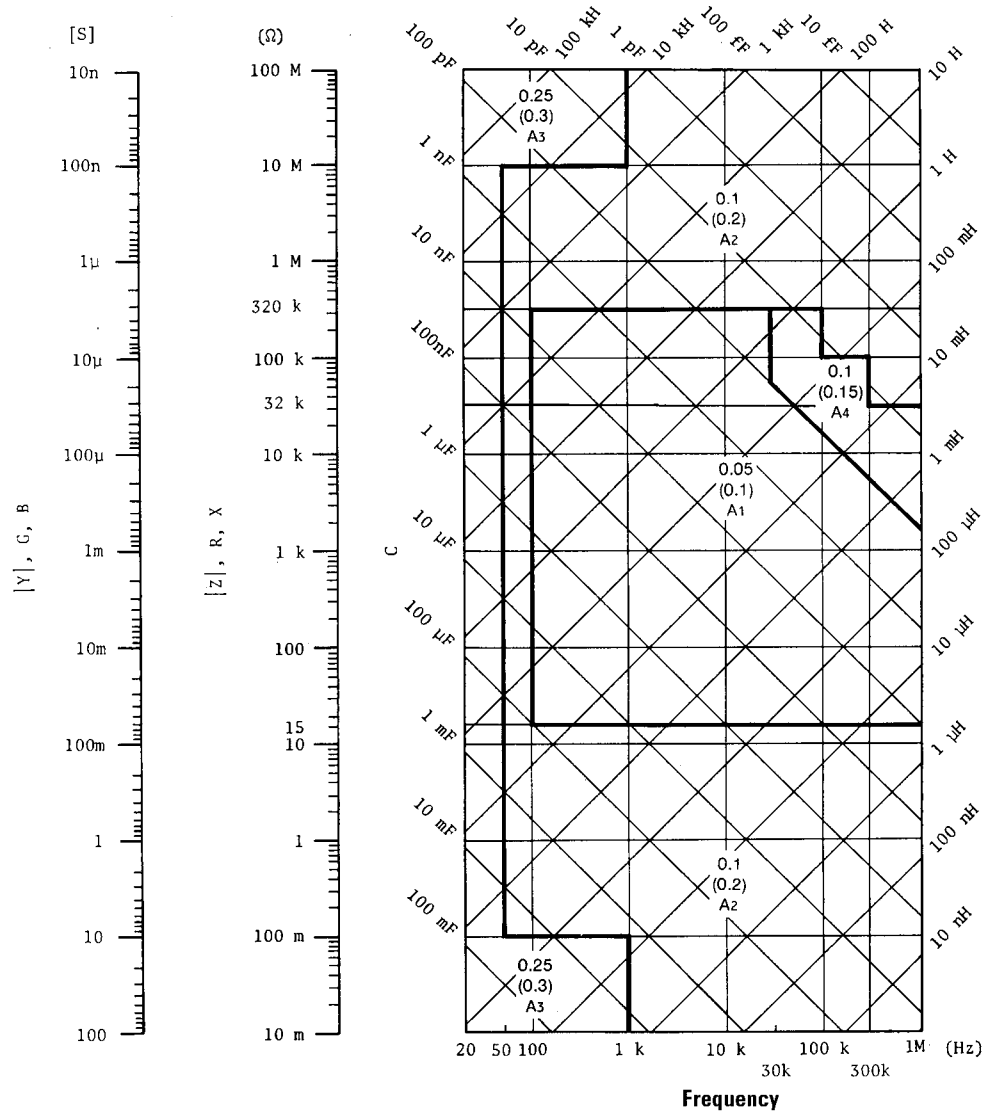

Figure 1. Baseline accuracy facto (4284A)
1. A is basic accuracy as shown in figure 1
- Step 1: Use Figure 1 to determine A and Z_m .